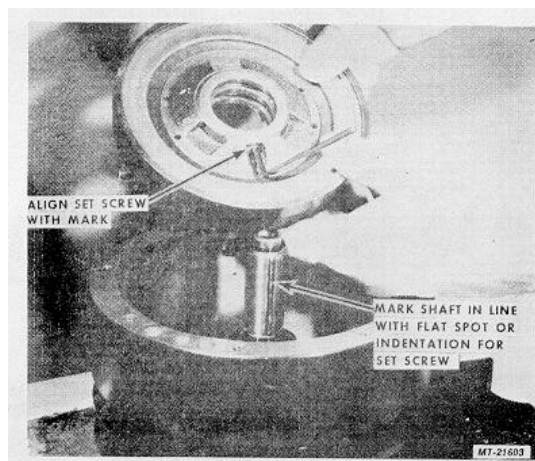

Fig. 73
36. Mark Shaft to designate the flat spot or round indentation for Set Screw, Fig. 73. (See Step 37).